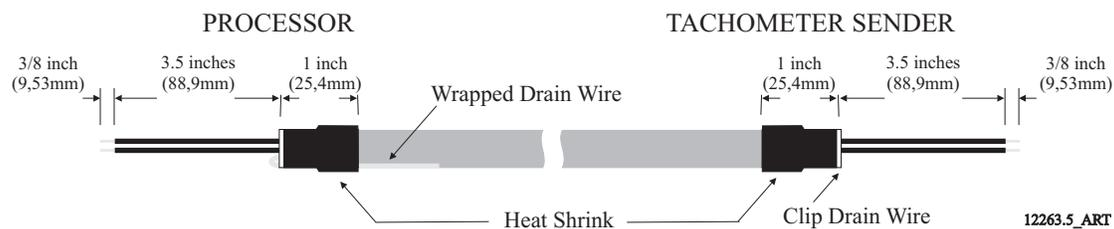
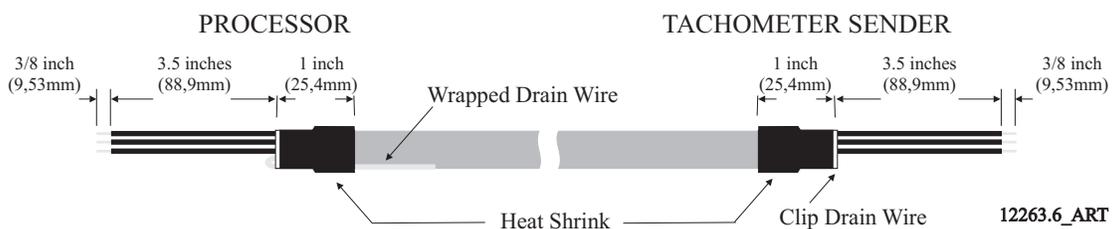

Figure 4-14: AC Type Tachometer Cable
Figure 4-15: Open Collector Tachometer Cable
- **Processor side:** Bend the drain wire back and tuck it under the shrink tubing so that the drain wire end is exposed past the shrink tubing. (Refer to Figure 4-14: AC Type Tachometer Cable and Figure 4-15: Open Collector Tachometer Cable.)